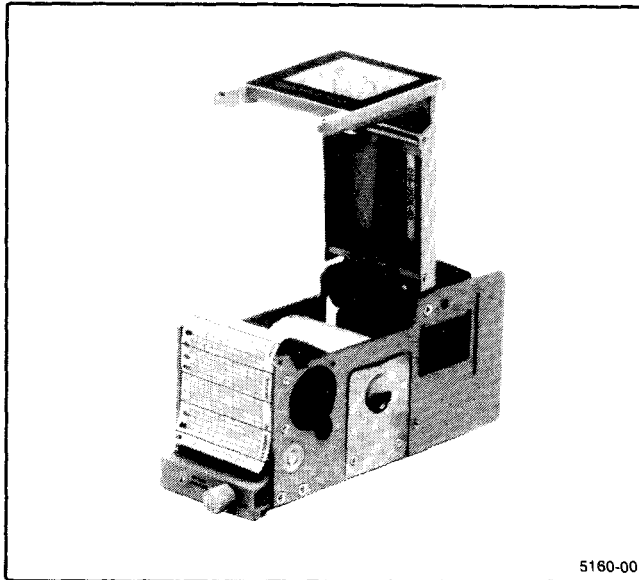

Fig. 2-1. Y-T Chart Recorder.
4. Place new roll of graph paper in top of recorder and push into place between the spring-loaded paper holders. Be sure the grid of the paper faces up (see Figure 2-1).